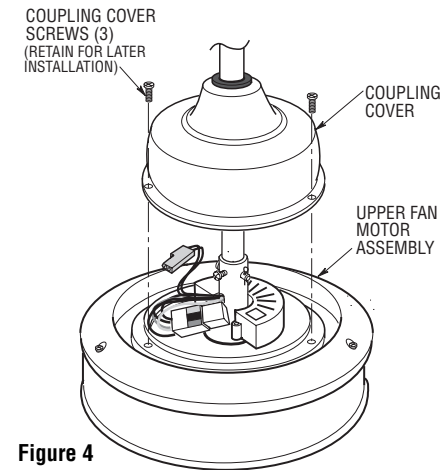

Figure 4
1. Remove the three coupling cover screws and slide the coupling cover up the downrod for installation of light kit assembly (Figure 4). Retain the three screws for later installation of coupling cover.